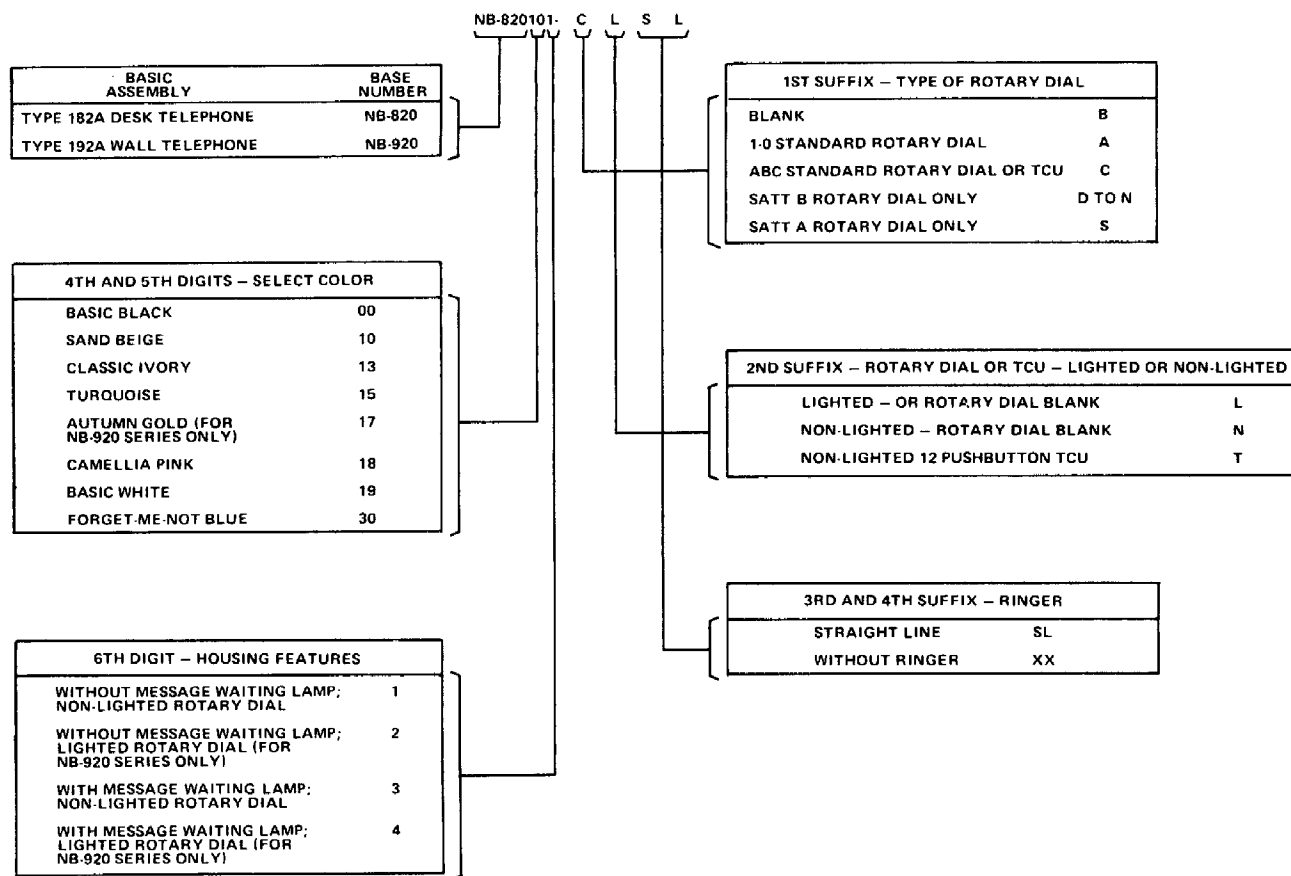

Figure 1. Type 182A and 192A Telephones Series NB Telephone Code Information.
2.01 Coding the telephone prior to packaging, requires the formulation of a part number. The coded part number consists of a two-letter prefix, six-digits, and a three-letter suffix. The code is explained in Figures 1 and 2.